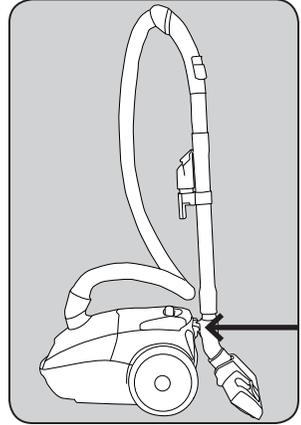

Fig. 1
1. When vacuum is flat, attach the wand to the notch between the wheels using the tab on the rug/floor tool (Fig. 1).